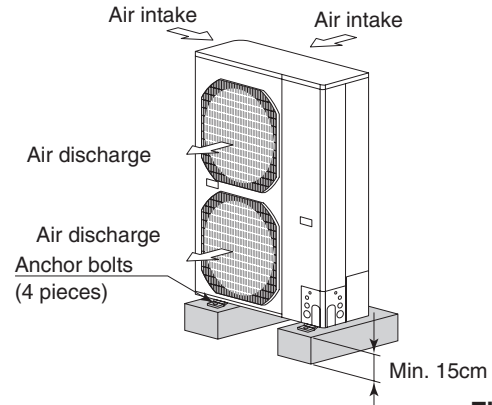

Fig. 2-16
- Provide a solid base (concrete block, 10 × 40 cm beams or equal), a minimum of 15 cm above ground level to reduce humidity and protect the unit against possible water damage and decreased service life. (Fig. 2-16)